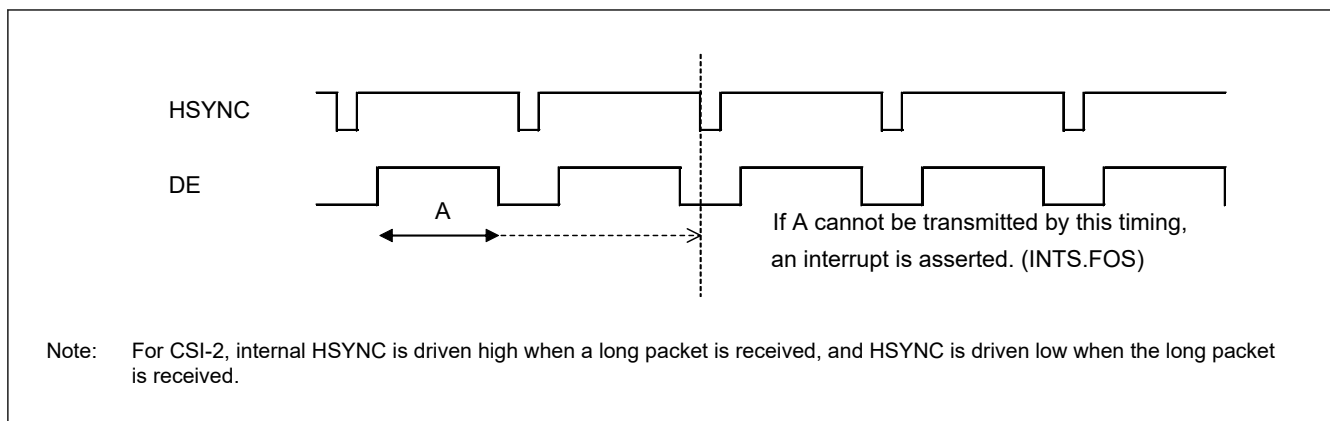

Figure 68.16 Overflow
3. If the completion of data output for 1H period could not be transmitted before the start of the line after next. See Figure 68.16.